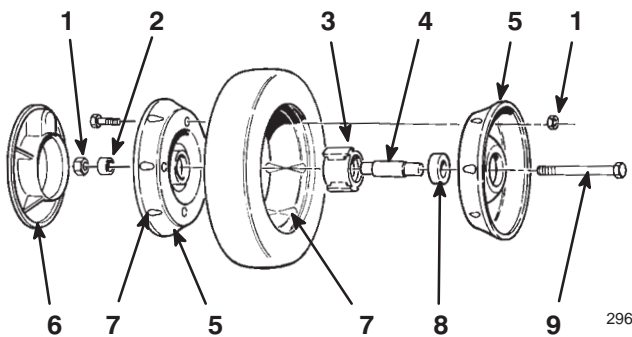

Figure 37
- Remove the cap screw, the wheel spacer, and the locknut mounting the wheel to the pivot arm (Fig. 37).
- Separate the wheel halves from the tire by removing 4 cap screws and 4 locknuts (Fig. 37).
Note: If you remove the bearings from the bearing/hub assembly, remove them by pressing on the bearing spacer (Fig. 37).
- Position the tire onto one wheel half, aligning the lugs on each (Fig. 37).
- Place the bearing/hub assembly into the center hole of the wheel half. Ensure that the legs of the hub are positioned over the flange of the hole (Fig. 37).
- Place the other wheel half onto the bearing/hub assembly, aligning the wheel and the tire lugs and the mounting holes (Fig. 37).
- Using 2 fully threaded screws or bolts (1/4–20 x 1.50 in.) and non-locking nuts, loosely secure the wheel halves together. Mount the screws or bolts in the opposing holes (Fig. 37).
- Check the alignment of all parts and tighten the screws, alternating from side to side for a uniform fit, until the wheel halves are drawn together (Fig. 37).
- Install the 2 cap screws and 2 locknuts previously removed in the remaining holes in the wheel halves and tighten. Remove the 2 long screws or bolts and replace them with 2 cap screws and 2 locknuts (Fig. 37).
- Install the wheel to the pivot arm with the cap screws, a spacer, and a locknut. Ensure that the spacer is positioned between the wheel hub and the pivot arm (Fig. 37).